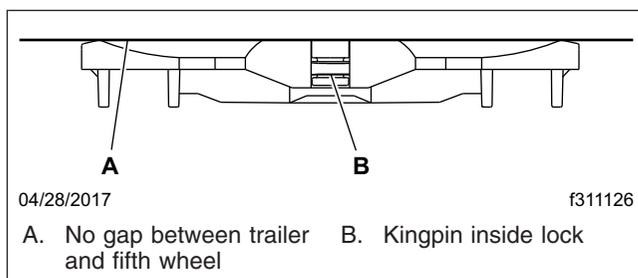

Fig. 20.5, Coupling Inspection
- Perform a coupling inspection, checking that there is no gap between the bottom of the trailer and the fifth wheel, and that the kingpin is securely locked. See Fig. 20.5
10. Apply the tractor parking brake, then perform a physical check for positive kingpin lockup, and that there is no gap between the trailer and the fifth wheel. See Fig. 20.5.